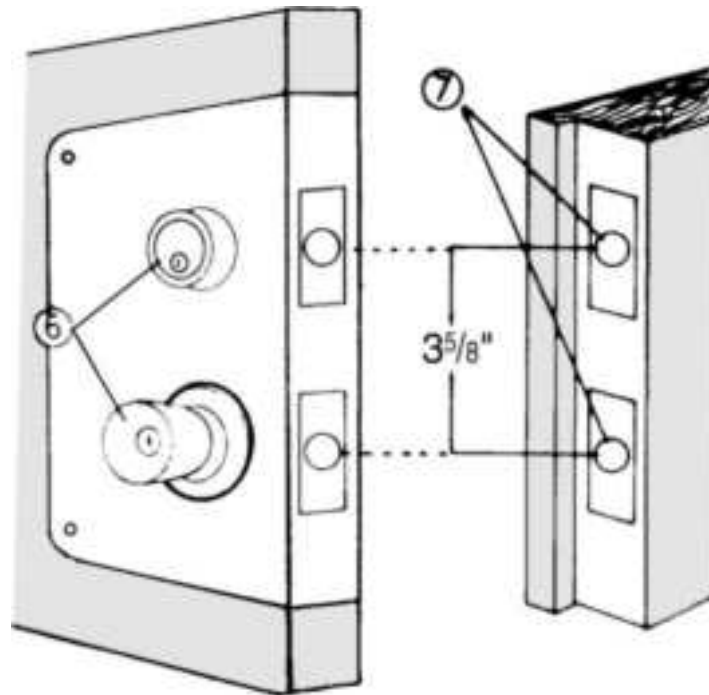

**Figure 13.140** Install the locksets and strike plates. (*M.A.G. Engineering and Mfg., Inc .*)
5. Install both locksets (6) (before installing the mounting screws). Install both striker plates (7)  $3\frac{5}{8}$  inches between centers. The strike plate installation should be per the specific instructions for the installed lockset (Fig. 13.140 ).